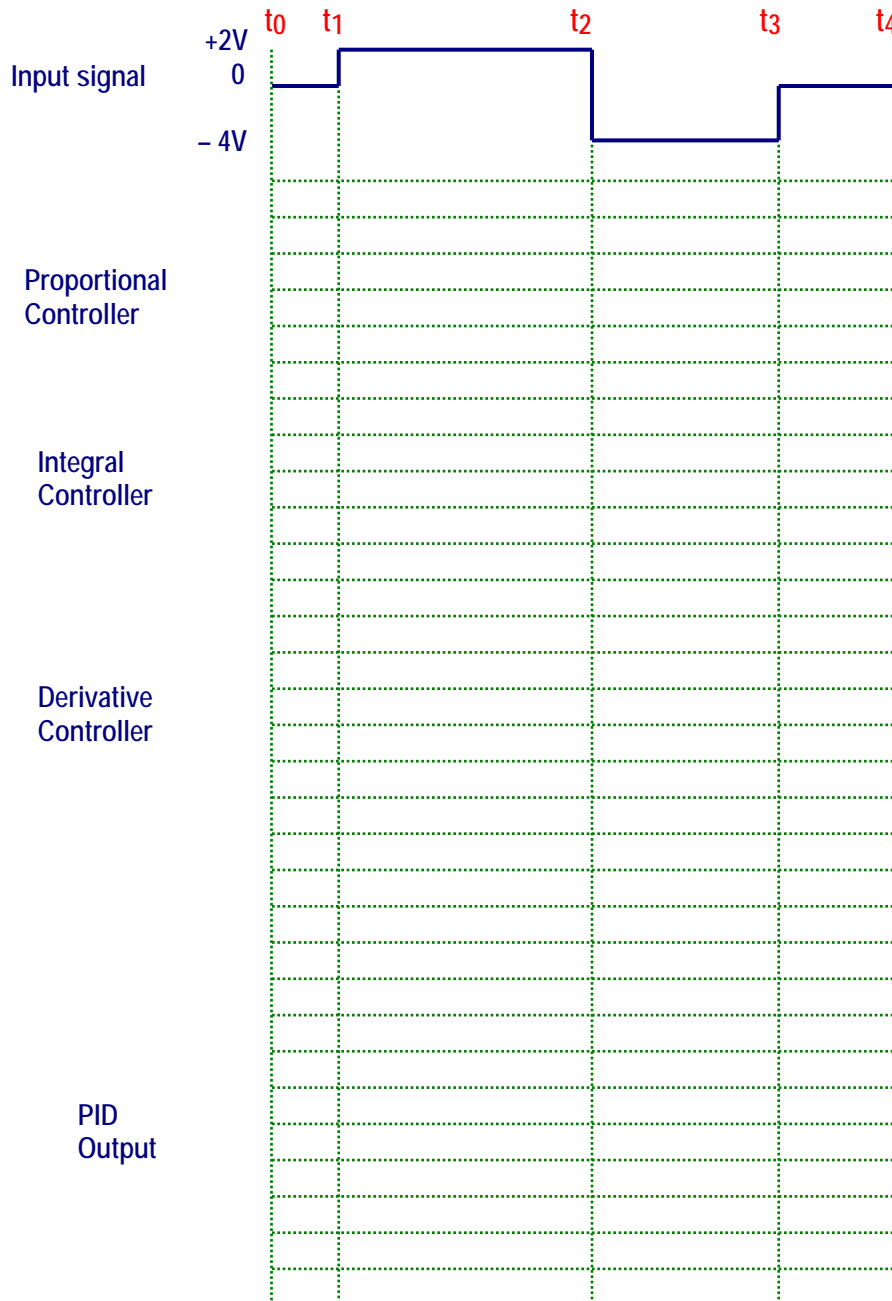

Figure 9-17.
- Draw the expected PID output waveform in Figure 9-17.